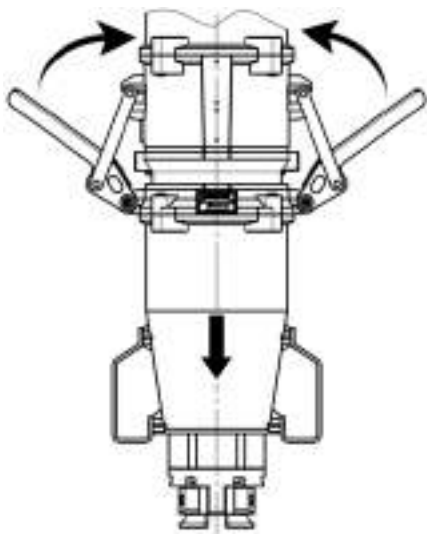

Fig.64: Opening the locking levers
7. Push the locking levers up (Fig. 64 /Pfeile), to open the locking levers.